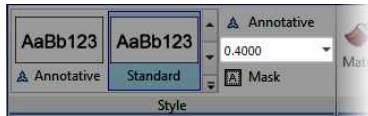

FIGURE 12.60: Changing the height of the centerline symbol
3. Highlight it, and change its height from 0.2000 to 0.4000 in the Text Height text box in the Text Style panel, as shown in Figure 12.60.